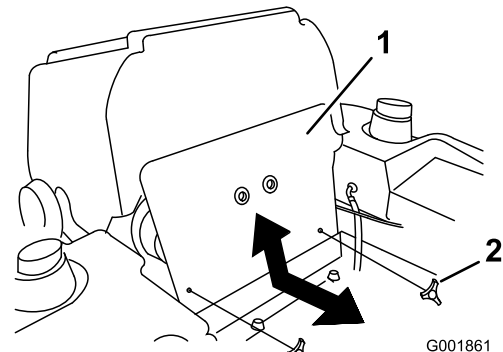

Figure 1
- Tilt the seat forward and remove the front engine panel (Figure 1).